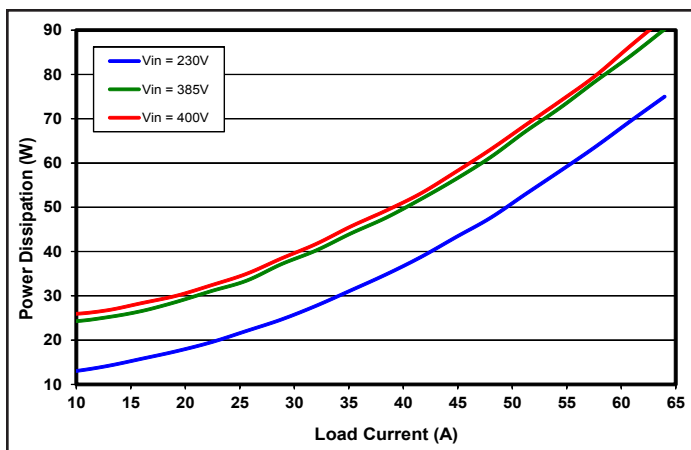
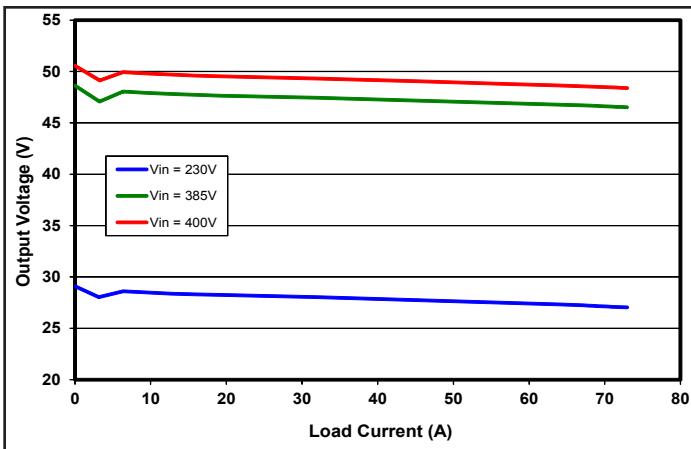

Figure 3: Power dissipation vs. load current for minimum, nominal, and maximum input voltage at  $T_{CASE}=25$  °C.
Figure 7: Output voltage vs. load current for different input voltages showing typical current limit curves.
**Operation at Light Loads:** The operation of the converter was optimized to reduce power dissipation at light load resulting in a no-monotonic  $V_o$  vs  $I_o$  characteristic load curve (figure 3 and figure 7). This feature affects, in a negative manner, the current share performance (ability) when placing multiple like BusQor's in parallel.